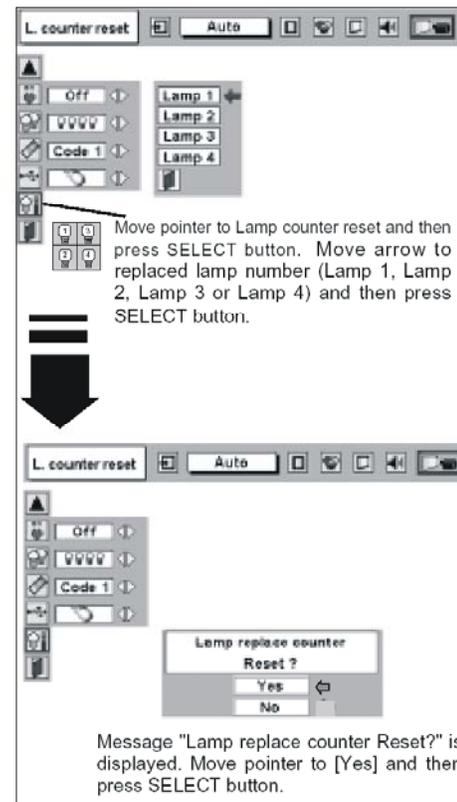

Figure 2. Onscreen Lamp Selection
- (c) Press the POINT DOWN button to move the pointer to the  LAMP COUNTER RESET icon and then press the SELECT button. Refer to Figure 2.
- (d) Move the arrow to select the lamp to be replaced (lamp 1, lamp 2, lamp 3 or lamp 4) and then press the SELECT button. The message, "Lamp replace counter reset?" is displayed. Refer to Figure 2.